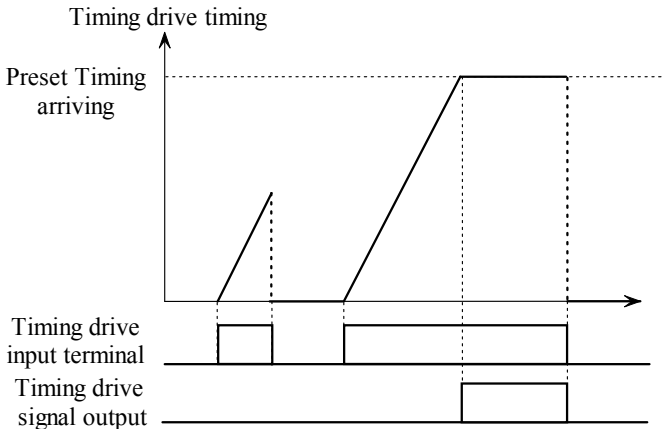

Fig. 5-3-7 Timing driving input
- ◆ If the timing arrives at preset setting of P3.33, inverter stops timing. As shown in Fig.5-3-7: